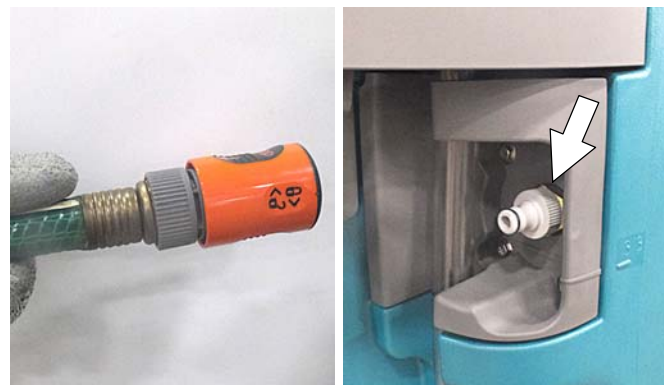

FIG. 22
1. Connect the quick-disconnect auto-fill coupler to the water supply hose and connect the nipple fitting to the machine (Figure 22).